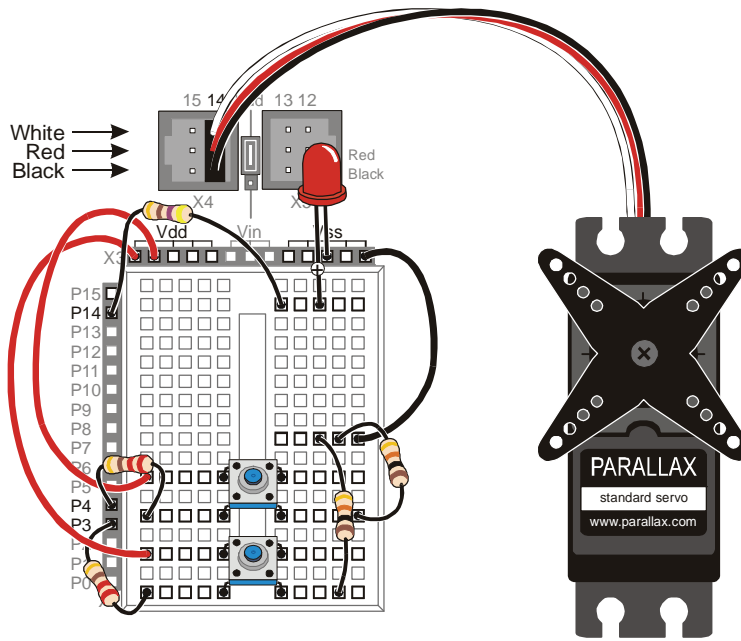

Figure 4-27
- Figure 4-27 if you are using a Board of Education USB (any Rev) or Serial (Rev C or newer).